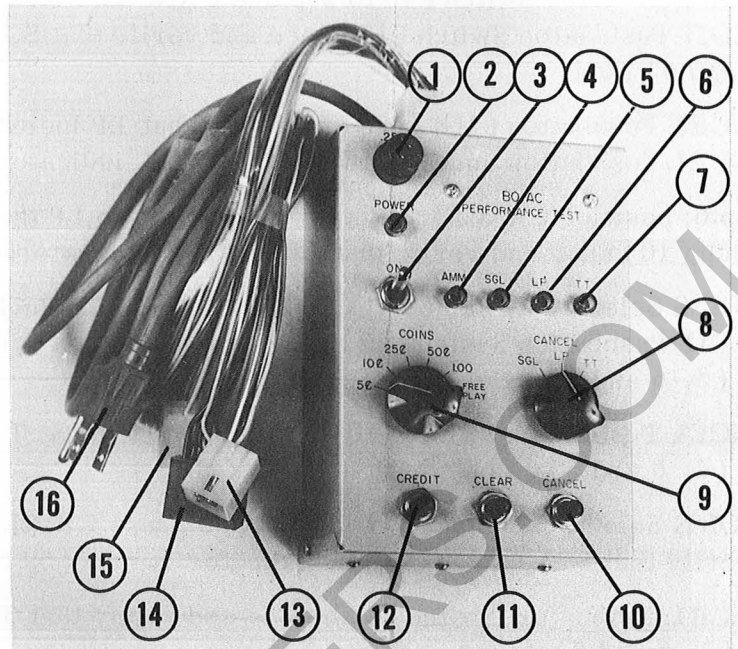

Figure 1. BO/AC Performance Tester
The Wurlitzer Kit 241, BO/AC Performance Tester, Part No. 142316, was designed to facilitate testing of the Wurlitzer Model 555 BO/AC, Part No. 137823, in either bench test or Phonograph configuration. When connected to the BO/AC, the BO/AC Performance Tester has the capability of electronically duplicating all credit, selection and cancel functions of the Phonograph. Refer to Figure 1 for location and function of BO/AC Performance Tester controls and indicators.
- b. Verify that Power Switch (3, Figure 1) is in OFF position.
- c. Connect Plug of Line Cord (16) to 115V A.C. power source.
1. Position Power Switch (3, Figure 1) to ON. Verify that POWER Indicator Lamp (2) lights.
2. Position COINS Selector Switch (9) to 5¢; press CREDIT Pushbutton Switch (12) once and verify that AMM Indicator Lamp (4) lights.
3. Press CLEAR Pushbutton Switch (11) and verify that AMM Indicator Lamp (4) goes out.
4. Position COINS Selector Switch (9) to 10¢; press CREDIT Pushbutton Switch (12) once and verify that AMM Indicator Lamp (4) lights.
5. Press CLEAR Pushbutton Switch (11) and verify that AMM Indicator Lamp (4) goes out.
6. Position COINS Selector Switch (9) to 25¢ and CANCEL Selector Switch (8) to SGL; press CREDIT Pushbutton Switch (12) once and verify that SGL and LP Indicator Lamps (5 and 6) light.
7. Press CANCEL Pushbutton (10) once and verify that LP Indicator Lamp (6) goes out; press CANCEL Pushbutton again and verify that SGL indicator Lamp (5) goes out.
8. Repeat Step 6; position CANCEL Selector Switch (8) to LP then press CANCEL Pushbutton Switch (10) once and verify that LP and SGL Indicator Lamps (6 and 5) go out.
9. Position COINS Selector Switch (9) to 50¢ and CANCEL Selector Switch (8) to T.T.; press CREDIT Pushbutton Switch (12) once and verify that SGL, LP and T.T. Indicator Lamps (5, 6 and 7) light.
10. Press CANCEL Pushbutton Switch (10) once and verify that T.T., LP, and SGL Indicator Lamps (7, 6 and 5) go out.
11. Position COINS Selector Switch (9) to \$1.00 and press CREDIT Pushbutton Switch (12) once and verify that SGL, LP and T.T. Indicator Lamps (5, 6 and 7) light.
- a. Verify that Power Switch (3, Figure 1) is in OFF position.
- b. Connect Plug of Line Cord (16) to 115V A.C. power source.
- e. Position Power Switch (3) to ON and verify that POWER Indicator Lamp (2) lights.
- g. At completion of performance test, position Power Switch (3) to OFF, then disconnect BO/AC Performance Tester from BO/AC.